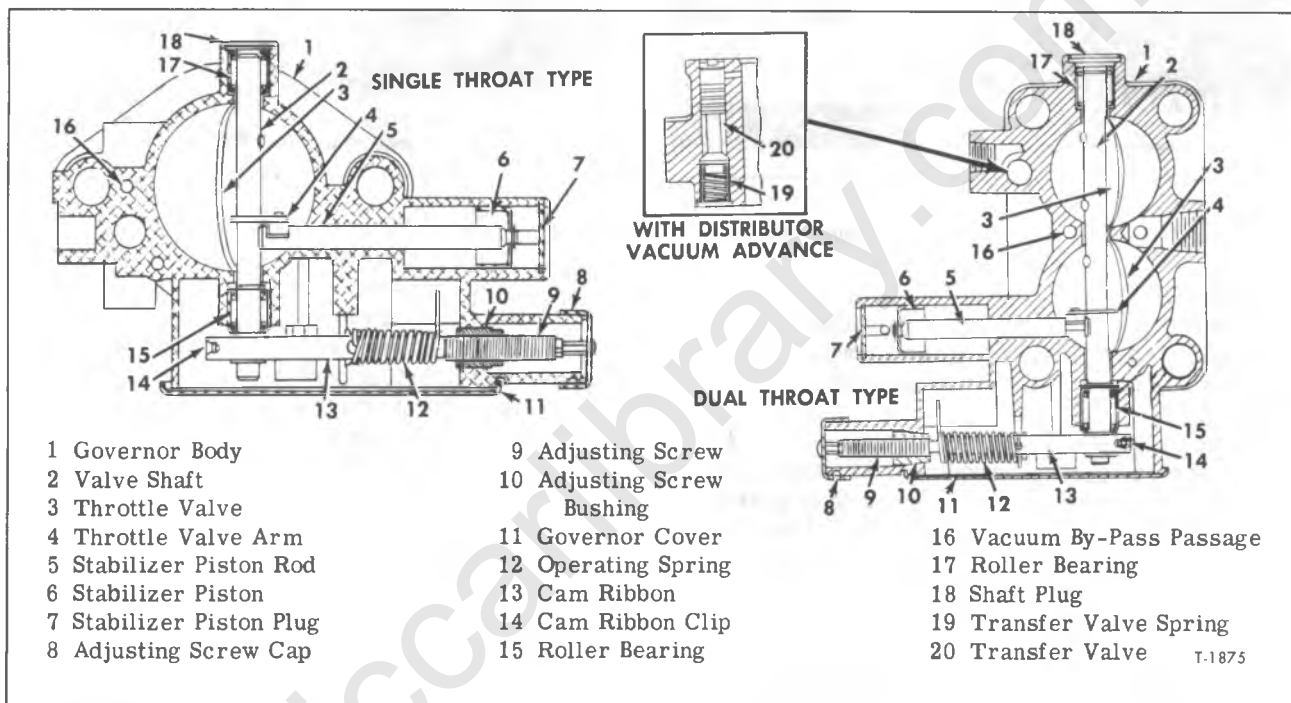

Figure 11—Velocity Type Governor
Velocity type governors are of two types and designated as single-throat type and dual-throat type (fig. 11). Single-throat type governor, having a single throttle valve is used on In-line engines.
Vacuum valve (20) and valve spring (19) shown on insert of figure 11 assist in regulating the ignition timing and do not in any way control the governed speed of engine.